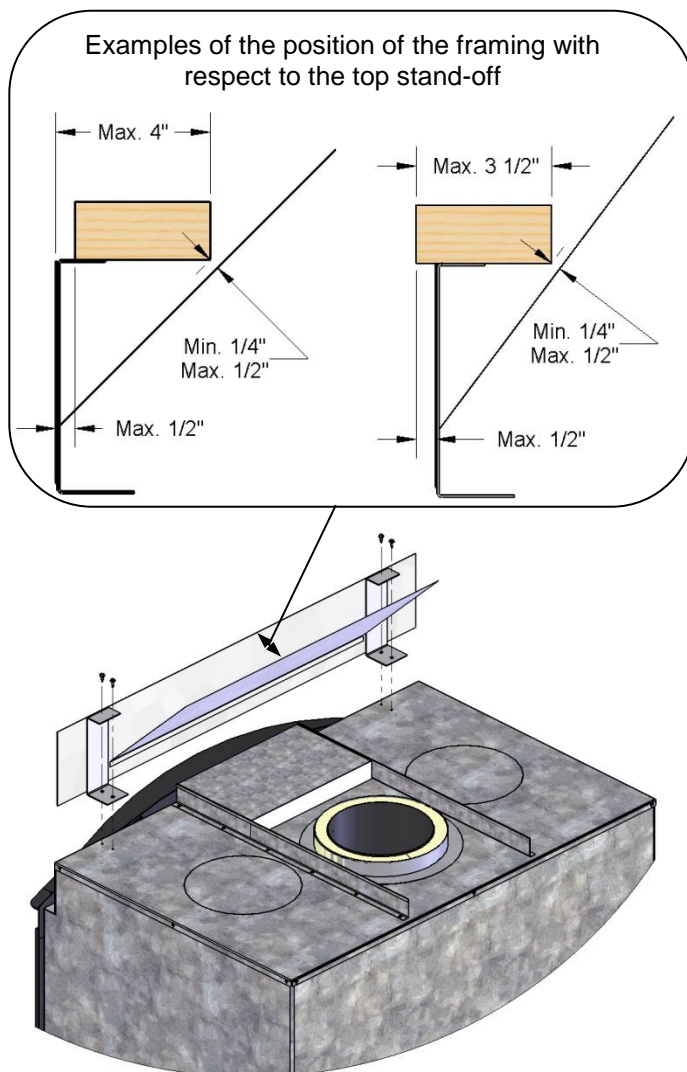

Figure 6 Standoff Installation
The back shield **MUST** be open on the back side as shown at the top of Figure 6. You can then install the standoff on the fireplace as shown in Figure 6 with the screws provided in the manual bag.
Framing cannot be recessed more than 1½" from the back of the decorative faceplate or more than ½" back from the front of the top standoff (see Figure 6). To accommodate thick non-combustible finishing materials (e.g. materials > 1"), use the decorative faceplate as a template and install them so that they protrude past the decorative faceplate.
- Align the front of the framing so that it is recessed 1/2" back from the decorative faceplate (or 1/2" in front of the top standoff, see Figure 6). It should be in line with the front of the notched portion of the side standoff.
- Align the front of the framing so that it is recessed 1" – 1 1/2" back from the decorative faceplate (flush - 1/2" back from the top standoff, see Figure 6). Adjust this distance based on the thickness of your facing material and add 1/2" for drywall.